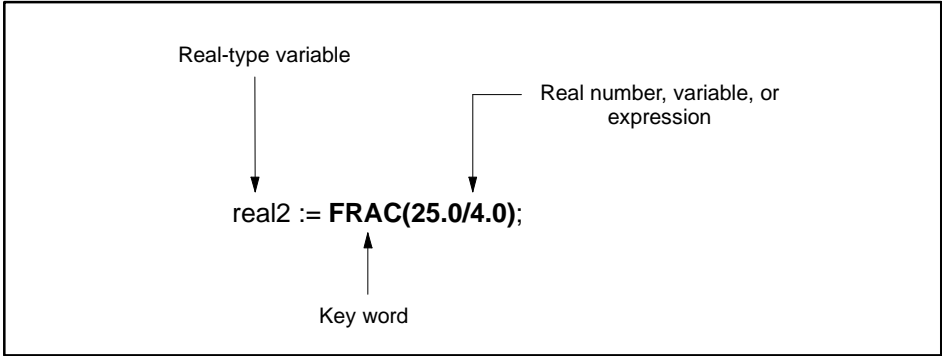

Figure 11-20 FRAC Function
- The returned value is also a real number. For example, in Figure 11-20, the value of the variable, **real2**, is 0.25.
Figure 11-20 shows how the FRAC function works.